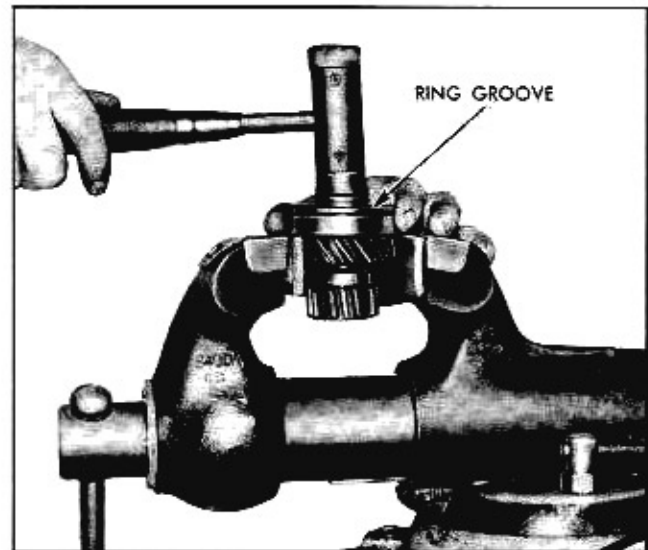

Fig. 7-34 Removing Clutch Gear Bearing
3. Place outer race of bearing on top of vise, and tap out clutch gear with a soft hammer (Fig. 7-34).
Installation of new bearing can be accomplished by tapping or pressing new bearing onto clutch gear with a suitable tool (such as J-6133) used on the bearing inner race. Ring groove should be away from gear (Fig. 7-34).